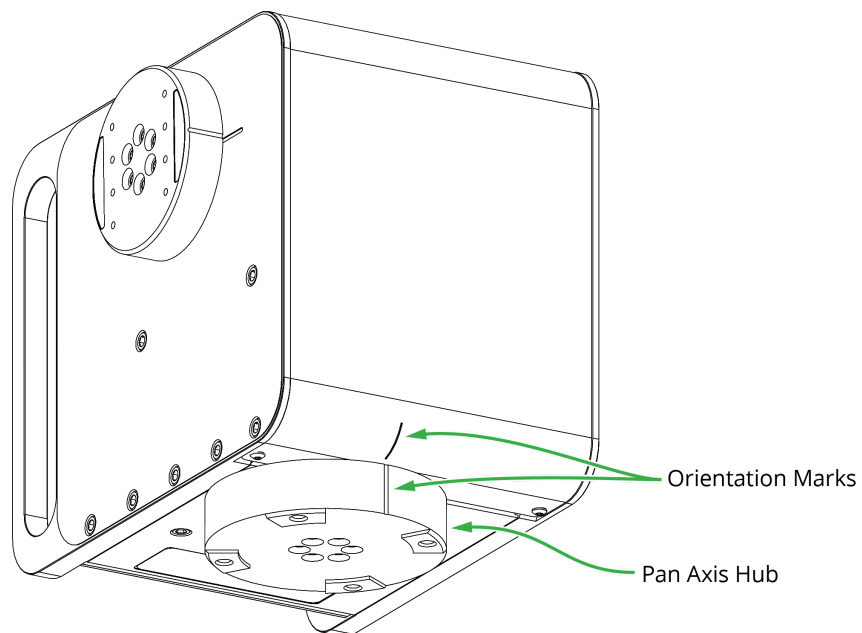

Figure 3.02 — X300, showing Pan Axis Orientation Marks
1. Find the orientation mark on the **Pan** axis hub and note whether it is aligned with a similar mark at the front of the head (Figure 3.02). The front is the side that is opposite from the connection panel.